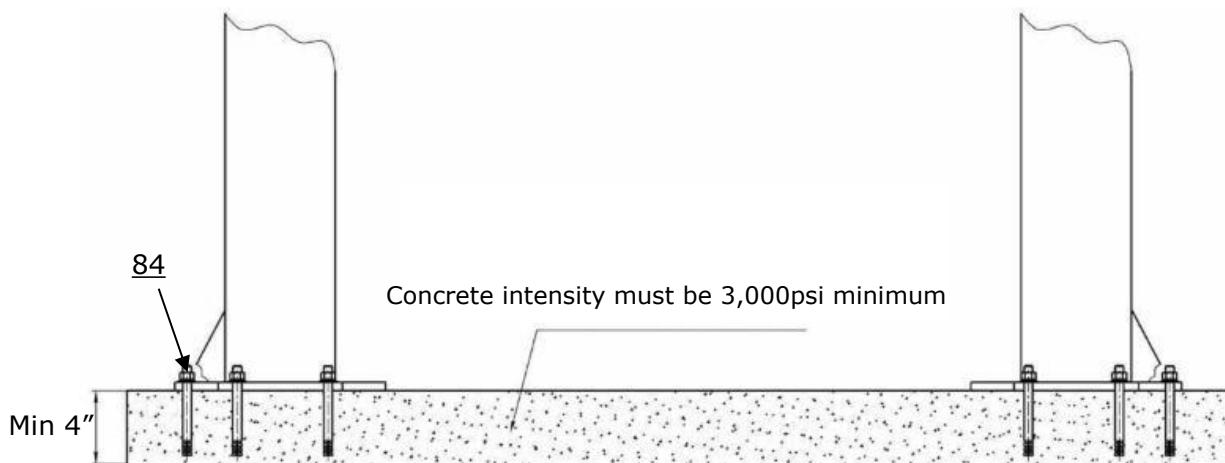

Fig. 8
D. SPECIFICATIONS OF CONCRETE (See Fig. 8)